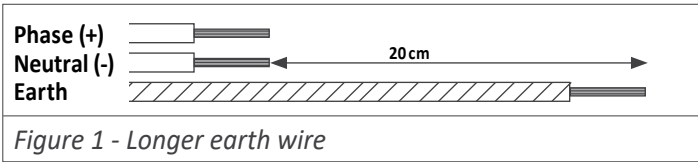

Figure 1 - Longer earth wire
3. Prepare the power cables so that the earth wire is 20 cm longer than the other cables (see Figure 1).